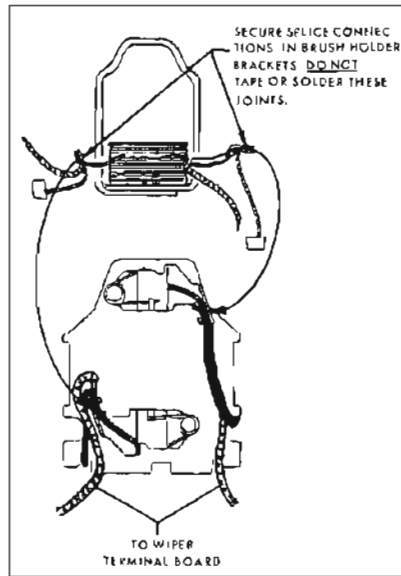

Figure 10-76—Motor Wiring
(1) Check solder connection at terminal board.
(2) Disassemble motor section and check all splice connections (Figure 10-76).
(4) Brush pigtail connections at splice joints (Figure 10-76).